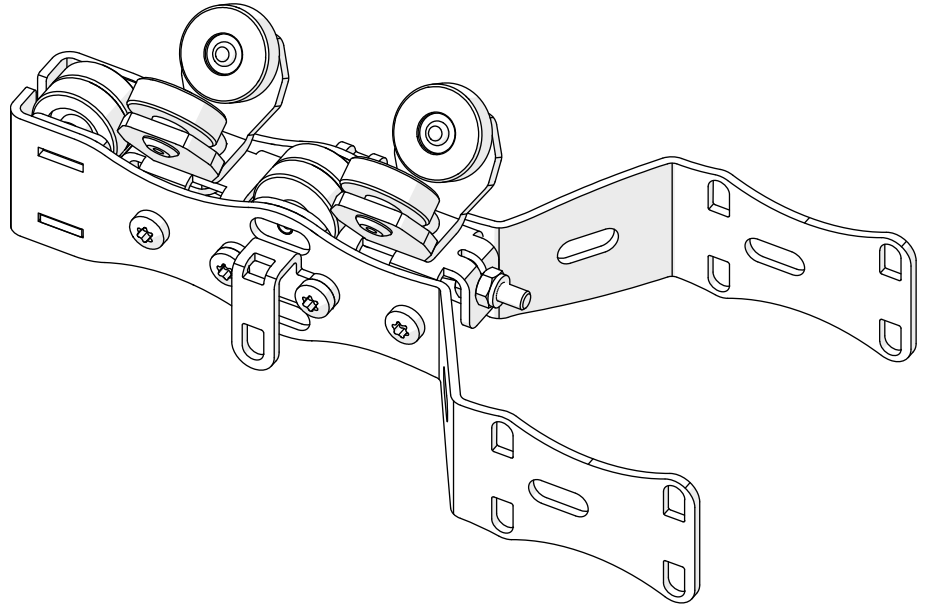

Fig. 63: Completed conversion to OFFICE master runner with double overlap arm
- ✓ The master runner is fully assembled (see Fig. 63). The magnet plate is attached after hanging the outer layers (see also *Chapter 5.8.2 Attaching outer layers to OFFICE master runners* [► p. 92]).